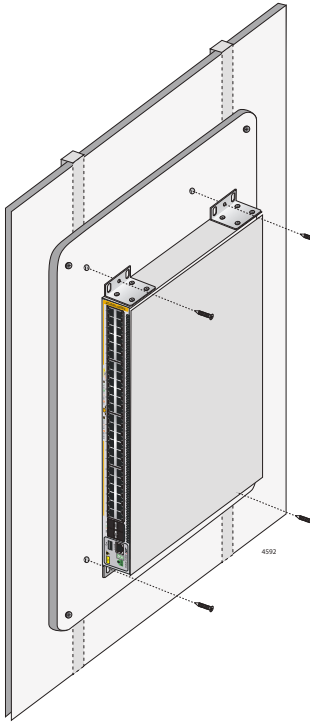

Figure 30. Installing the Switch on the Plywood Base
2. Install the switch on the plywood base. Refer to Figure 30.